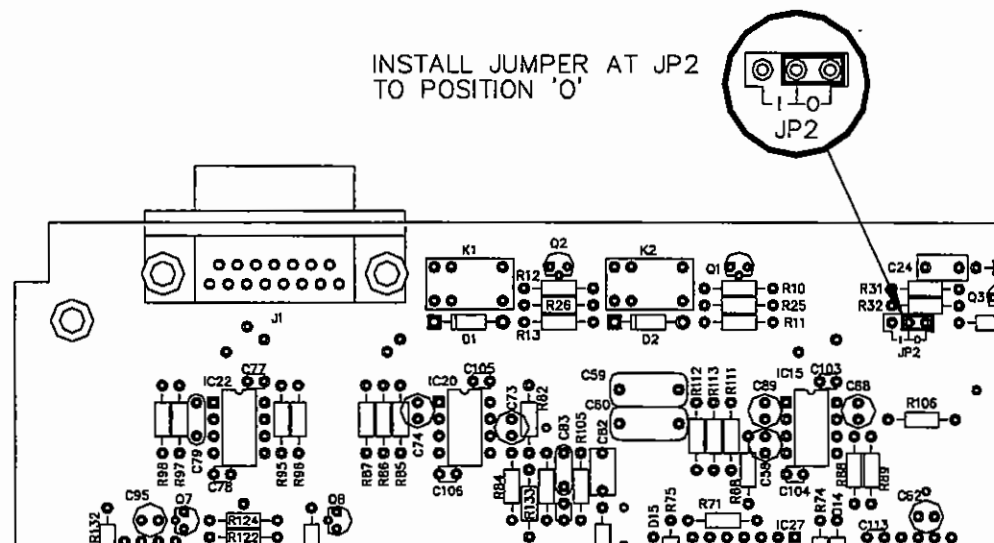

FIGURE S1-14. Jumper Setting for Logic Input Level Selection for Logic Input #2
Differences Between The Two Inputs There is only one difference between Logic Input #1 and Logic Input #2: Logic input #2 supports either an active hi input or an active low input, whereas Logic Input #1 only supports active low inputs. Active low is the default for Logic Input #2. To set Logic Input #2 to accept a logic hi input, you must set a jumper inside the ICS-2002 station as shown in figure S1-14.
- Configure Logic Input #2 for active hi input by setting the internal jumper as shown in Fig S1-14.